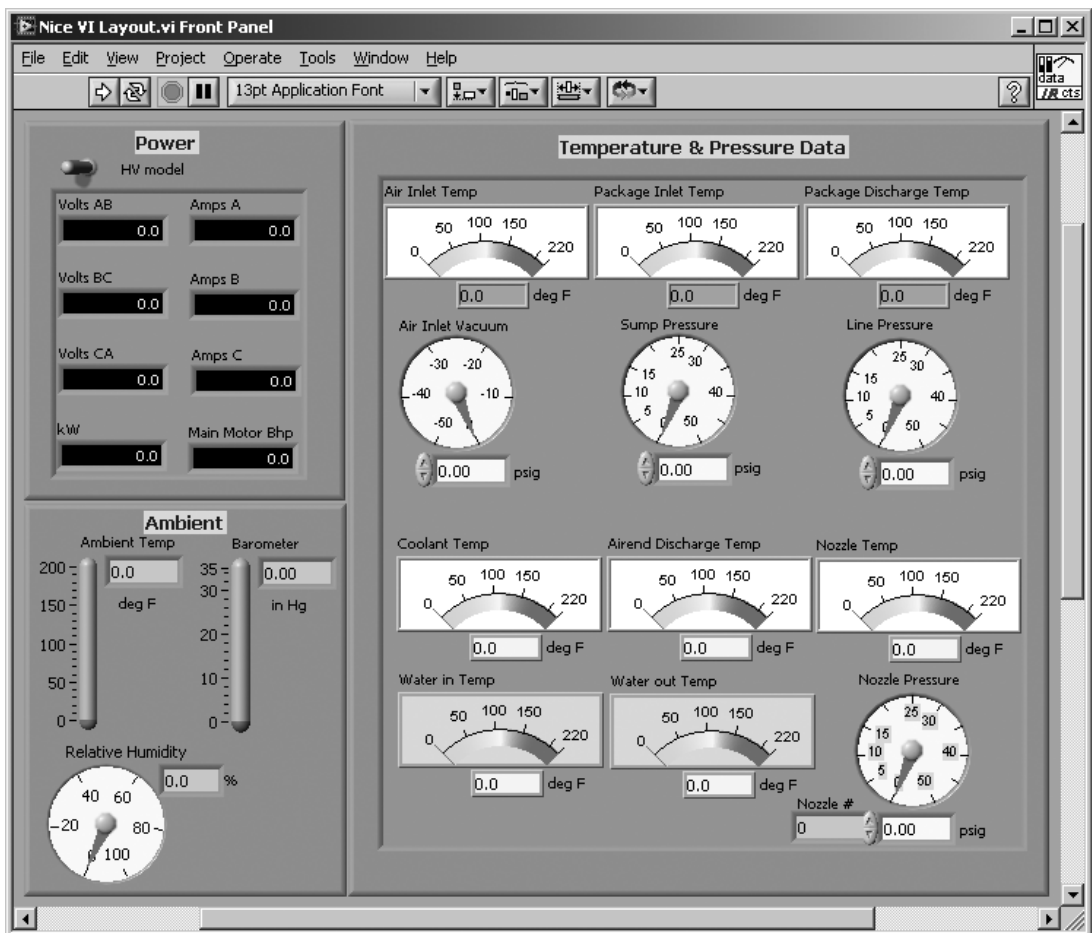

Figure 17.23
- Try to use neatly aligned rectangular decorations as “modules” on the front panel, neatly aligned to group objects (see Figure 17.23).